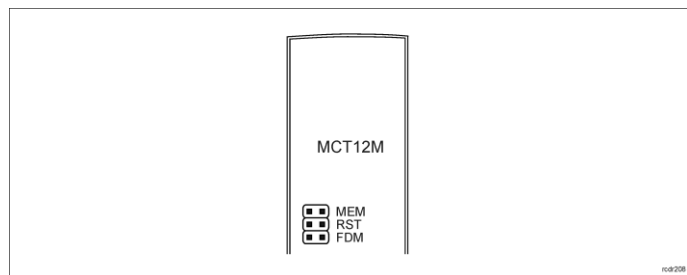

Fig. 3 Service contacts
2. Place jumper on MEM contacts (fig. 3).
2. Place jumper on FDM contacts (fig. 3).